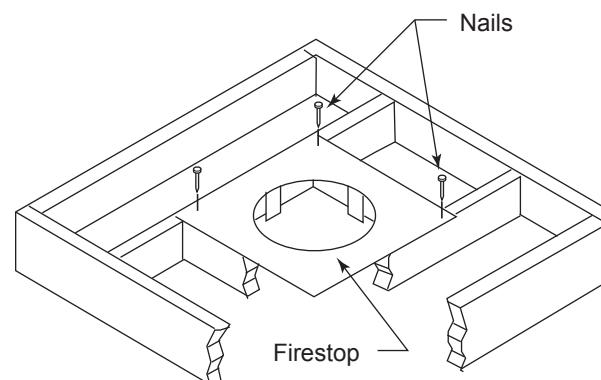
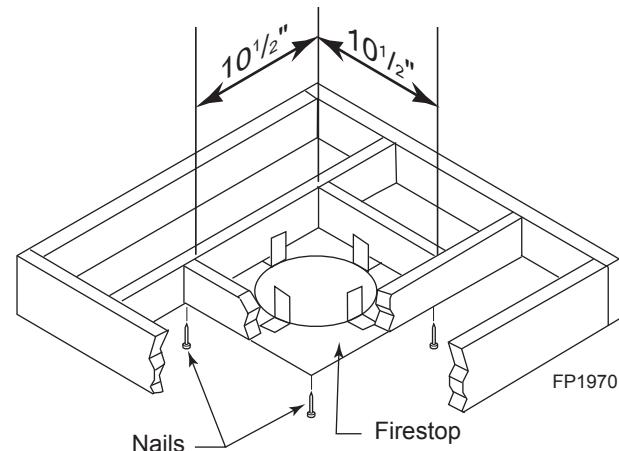

Figure 23 - If Area Above is a Room, Install Firestop above Framed Hole as Shown
Figure 24 - If Area Above is Not a Room, Install Firestop above Framed Hole as Shown
- Cut a $10\frac{1}{2}$ " (241 mm) square hole in the ceiling using the locating hole as a center point. The opening should be framed to $10\frac{1}{2}" \times 10\frac{1}{2}"$ (241 x 241 mm) inside dimensions as shown in *Figure 24* using framing lumber the same size as the ceiling joist. If the area above the ceiling is an insulated ceiling or a room, nail firestop from the top side. This prevents loose insulation from falling into the required clearance space. *Figure 23*. Otherwise, install firestop below the framed hole. *Figure 24*